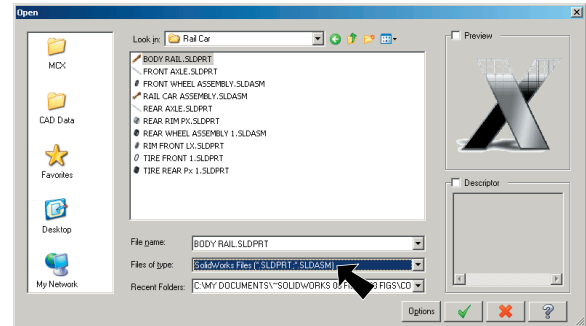
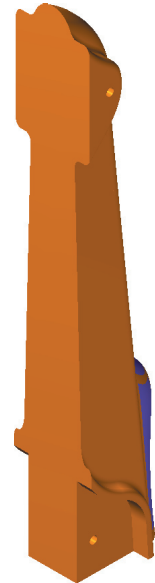

Fig. 1
Fig. 2
Step 3. In the Open dialog box set **Files of type** to **SolidWorks Files**, select your **BODY RAIL** file, **Fig. 1**. Click OK , **Fig. 2**.